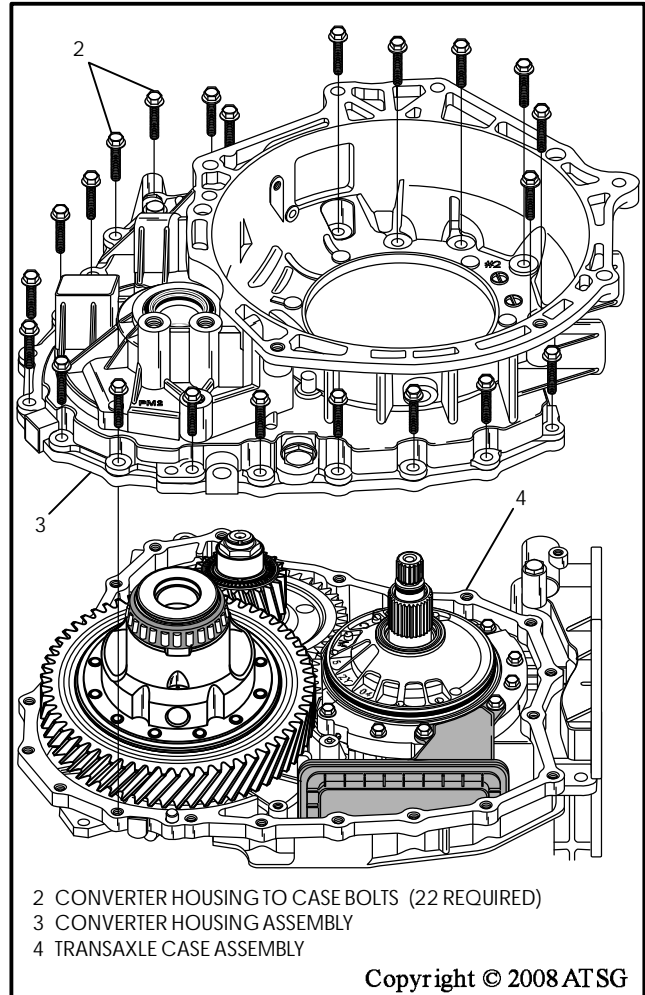

Figure 227
37. Install the converter housing onto the transaxle case, as shown in Figure 227, and install the 22 retaining bolts.